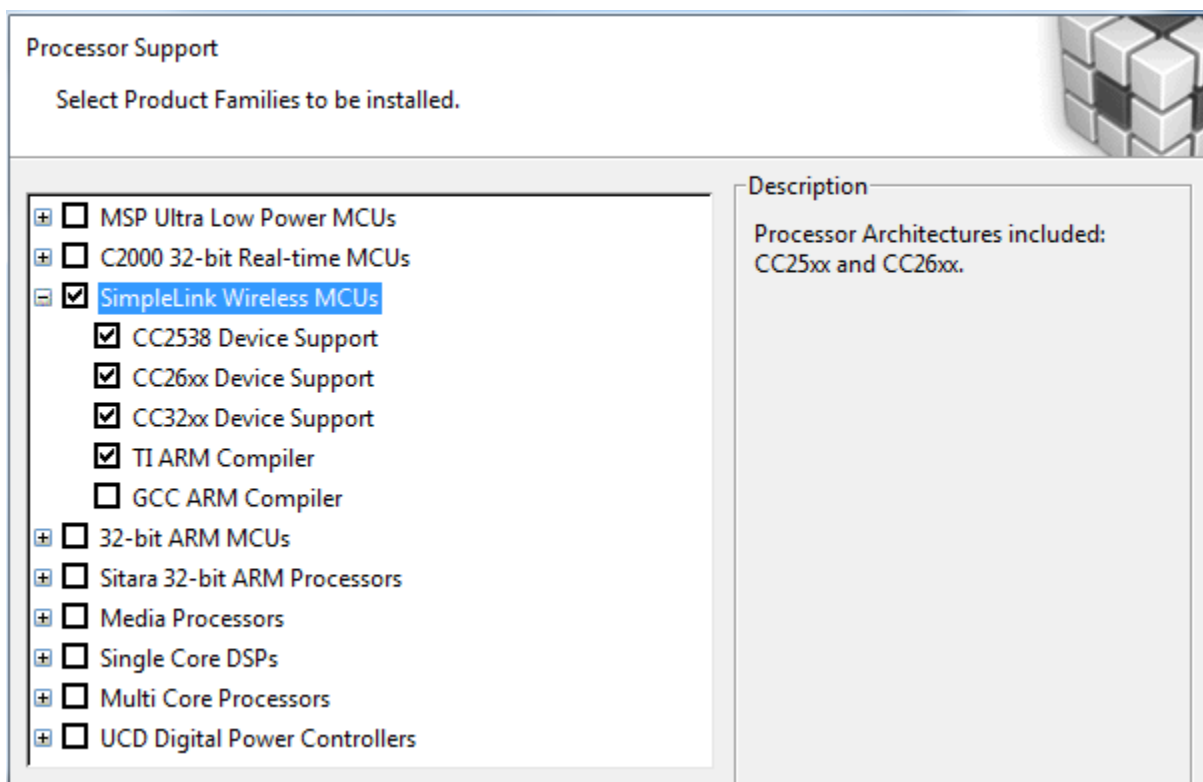

Figure 18, Processor Support Options
- f. For Processor Support: Check SimpleLink Wireless MCUs. CC2538 device support, CC26xx device support and TI ARM Compiler options are required (Figure 18). Press Next